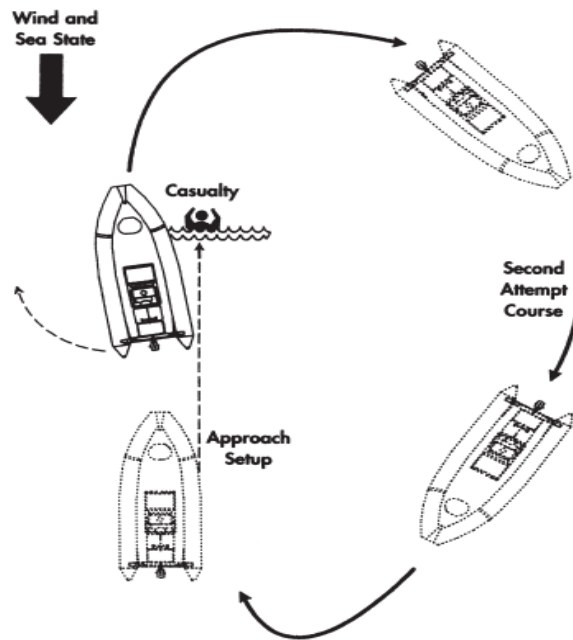

Figure 22 Recovering a MOB
8. If the MOB is missed on the first approach, circle around again keeping the MOB on the inside of the circle and keeping the propeller away from the MOB (as illustrated in Figure 22).